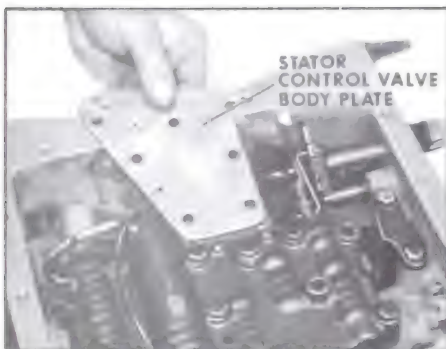

Figure 5-116
7. Remove stator control valve body plate. See Figure 5-116.